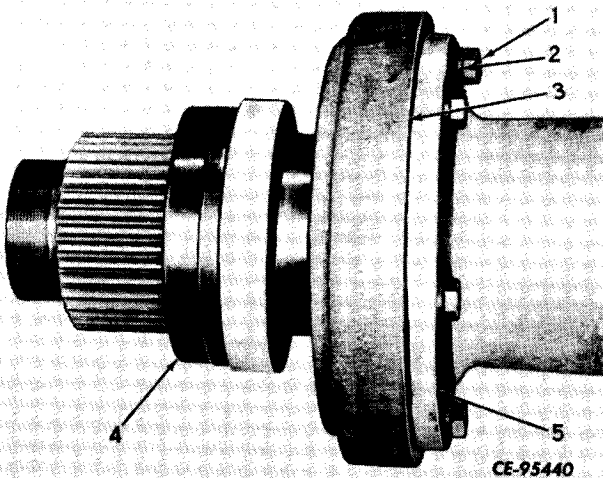

Figure 6-15
Install guard (3, Fig. 6-15) against axle housing flange (5). Install and tighten cap screws (1) and lock washers (2) (refer to "SPECIAL TORQUES").